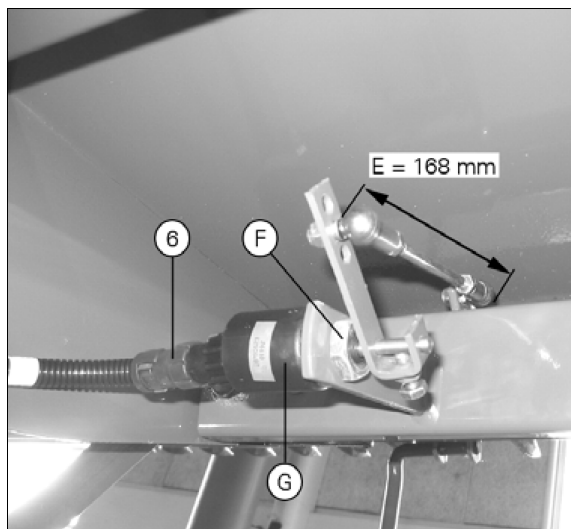

Fig. 5.
22. Apply Loctite 270 to the bolt pos. 1 and tighten to 360 Nm (fig. 5).